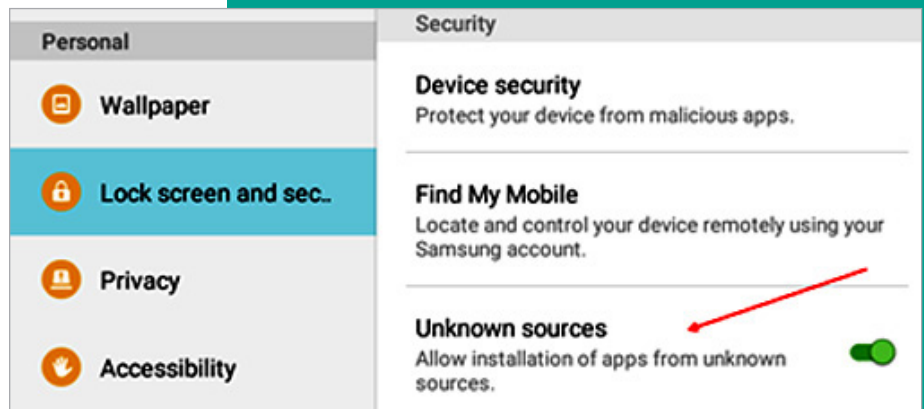

Figure 56: Security settings
2. In the tablet settings, enable the security option to allow the installation of software from “unknown sources” for this installation only (see Figure 56 at right).